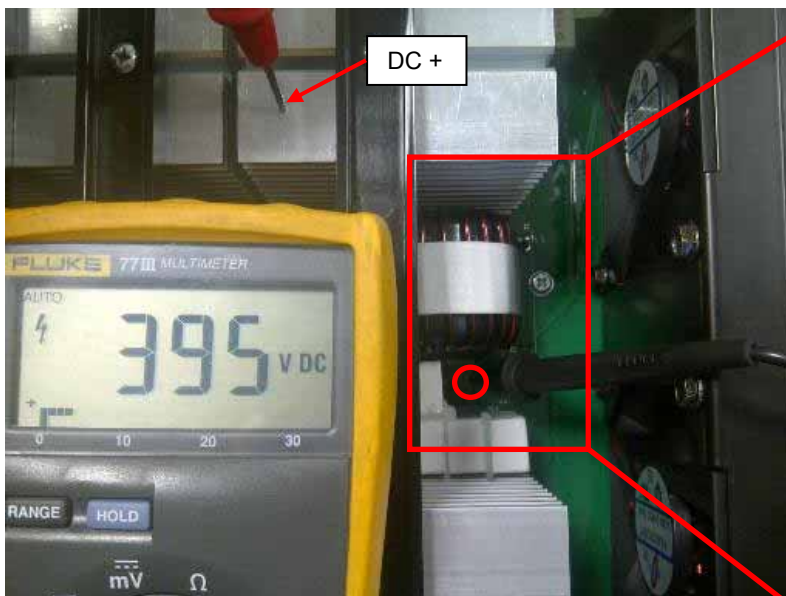

Figure 1
4. Locate the two points **DC+** (on input bridge heat sink) and **DC-** (test point on printed circuit) on the Main Board. **See Figure 1 and 1A**
8. Use electrically insulate gloves and insulated pliers. Hold the body of the resistor and connect the resistor leads across the two points DC+ and DC -. **See Figure 1 and 1A**. Hold the resistor in place for 10 seconds. DO NOT TOUCH CAPACITOR TERMINALS WITH YOUR BARE HANDS.